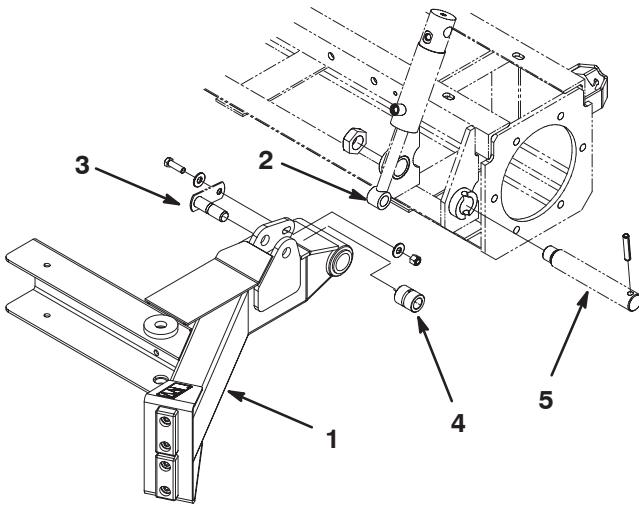

Figure 8
1. Mount left lift arm assembly to frame with lift arm pin and nut previously removed (Fig. 8). Torque to 60–70 ft-lb.
2. Mount cylinder end to lift arm with cylinder pin, spacer (GM 4100 only), 3/8 x 1-1/4" lg. screw, .406 x .813 flatwasher and 3/8 flange locknut. (Fig. 8). Torque to 27–33 ft-lb. Spacer to be positioned between lift arm plates and on cylinder pin when installed in cylinder end.